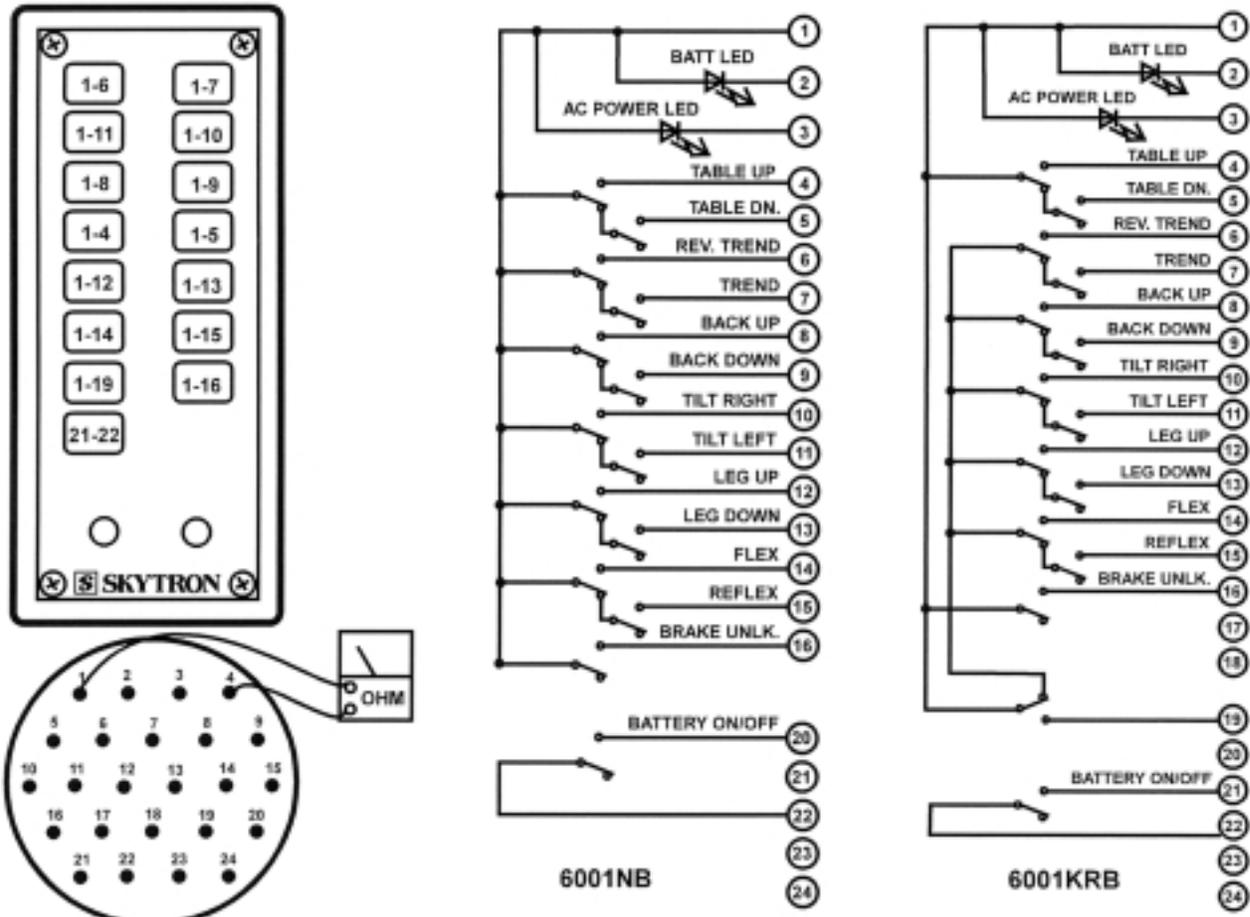

Figure 7-12. Pendant Control Test
2. Use an ohmmeter R x 1 and check the continuity between pins 1 and pins 4 through 19 while pressing the appropriate button. Also test between pins 21 and 22. See figure 7-12.
The BATTERY and AC120V power ON indicators can be checked with an LED tester. Test BATTERY indicator at pin 1(+) and pin 2(-) of 24 pin Pendant Control connector. Test AC120V indicator at pin 1(+) and pin 3(-). See figure 7-12.